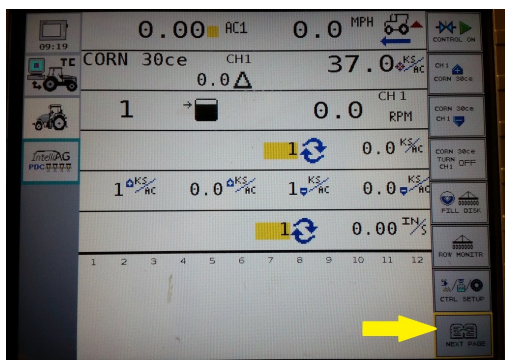

Figure 49
Step 2. Select **Next Page**. (Figure 49)